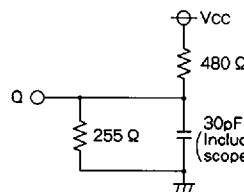
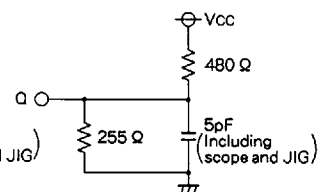

Fig.1 Output load
Fig. 2 Output load for t_{en}, t_{dis}
Output loads Fig.1, Fig.2
3. Transition is measured $\pm 500mV$ from steady state voltage with specified loading in Figure 2.